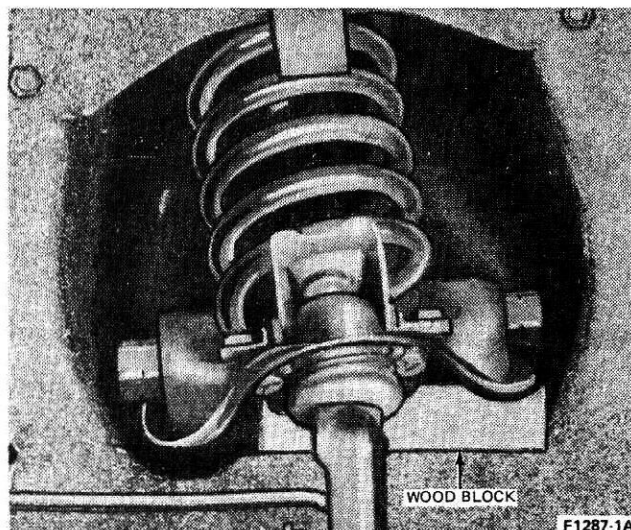

FIG. 2 Upper Arm Support
1. Remove the shock absorber and upper mounting bracket as an assembly. Position wood blocks (Fig. 2).
1. Position wood blocks as shown in Figure 2.
1. Position wood blocks (Fig. 2). Raise the vehicle, position safety stands under the frame and lower the vehicle slightly.
1. Position wood blocks between the upper arm and frame (Fig. 2), then raise the vehicle and position safety stands.